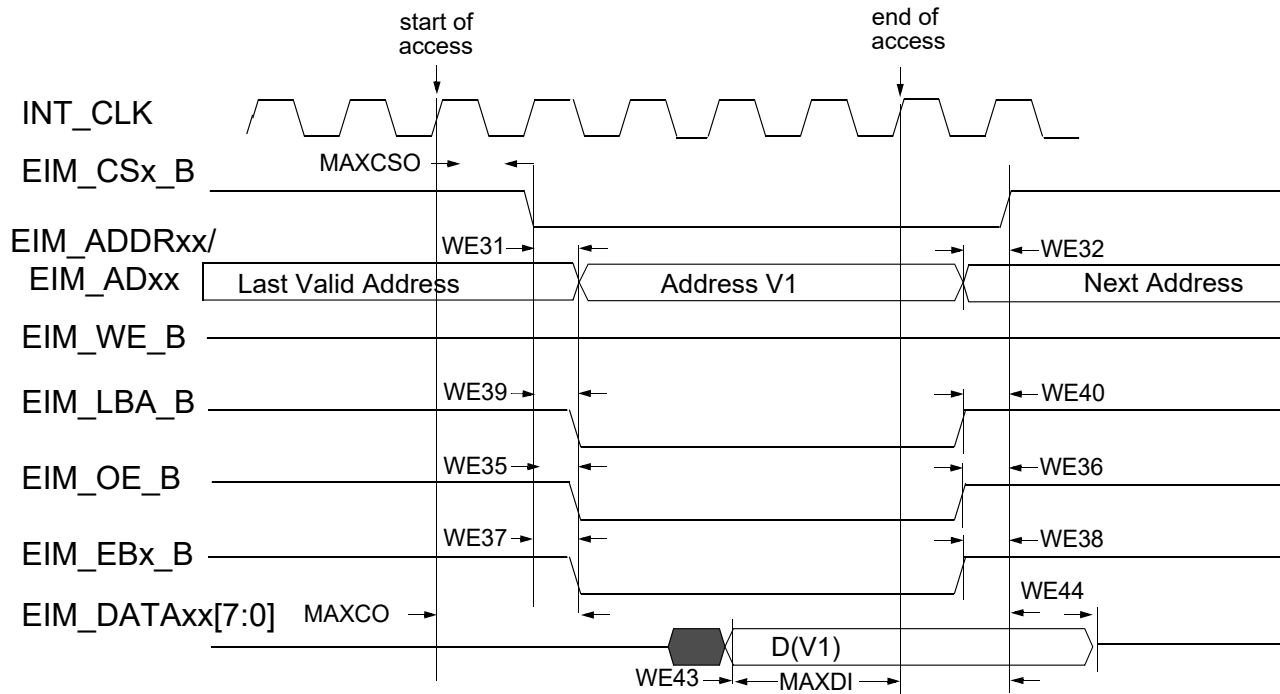
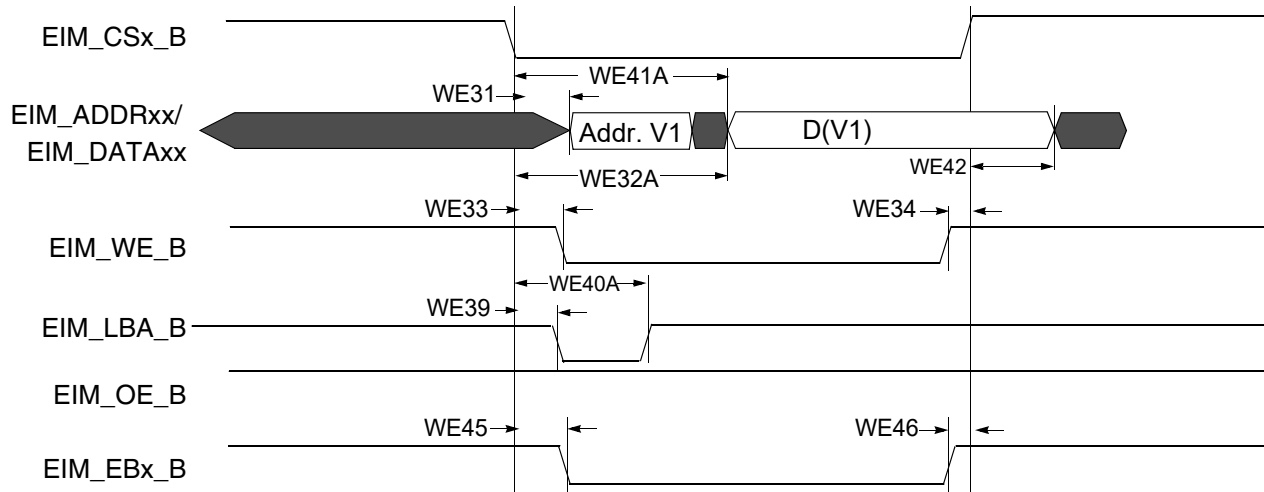
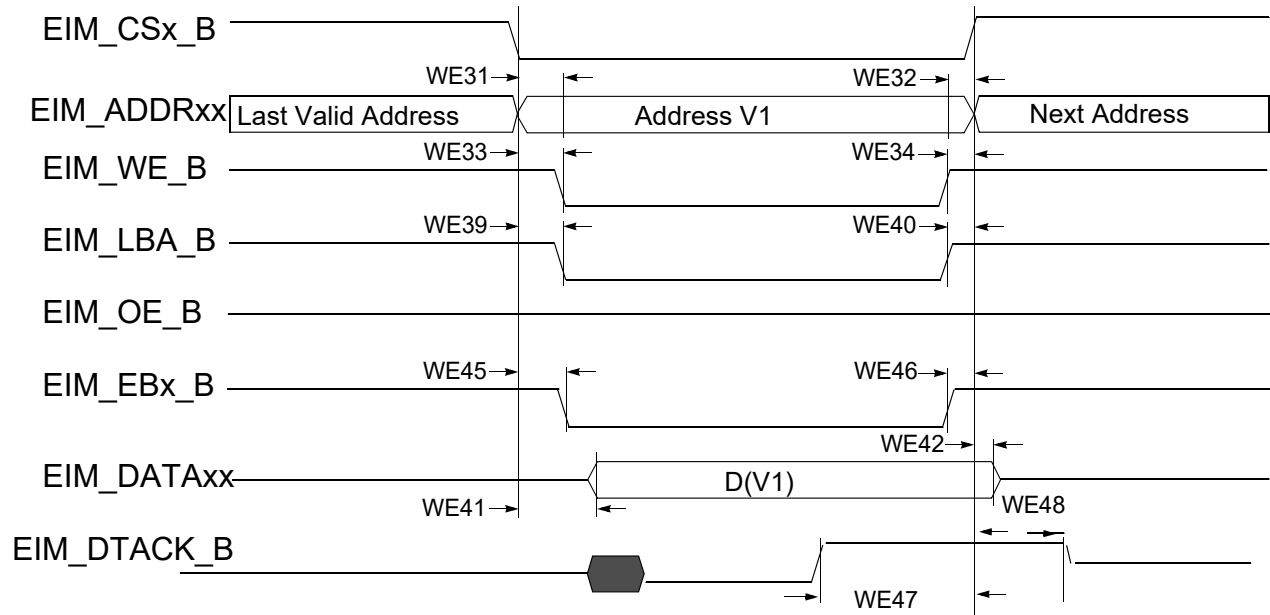

Figure 16. Asynchronous Memory Read Access (RWSC = 5)
Figure 19. Asynchronous A/D Muxed Write Access
Figure 21. DTACK Mode Write Access (DAP=0)
Figure 16 through Figure 21, and Table 44 help you determine timing parameters relative to the chip select (CS) state for asynchronous and DTACK EIM accesses with corresponding EIM bit fields and the timing parameters mentioned above.
Asynchronous read and write access length in cycles may vary from what is shown in Figure 16 through Figure 19 as RWSC, OEN and CSN is configured differently. See the *ii.MX 6SoloX Applications Processor Reference Manual (IMX6SXR)* for the EIM programming model.